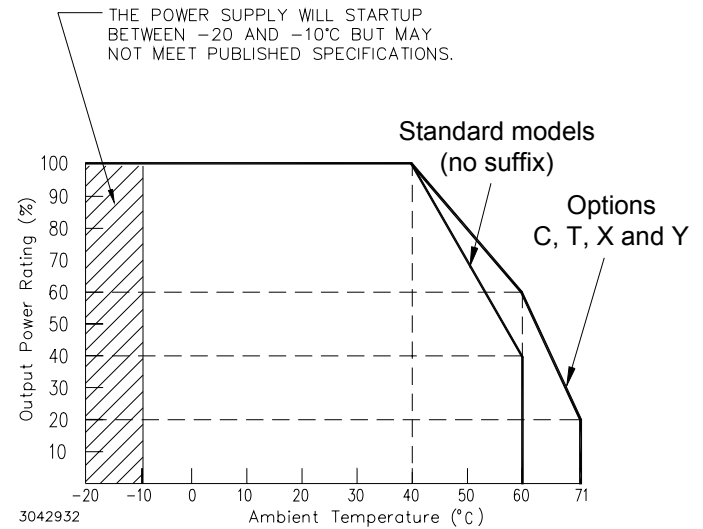

FIGURE 4. OUTPUT POWER RATING VS. AMBIENT TEMPERATURE
(1) Derates same as Output Power.
(2) Current Limit is rectangular. After the overload is removed, output is automatically restored.
(3) See power derating curve, Figure 4.
OPERATING TEMPERATURE: See Figure 4. (5V Model requires air cooling, 6 cfm min., above 25°C.)
- (1) Overvoltage (and overtemperature on 24V model) shuts down the output. Recover by recycling a-c input (approximately 30 second delay required before resetting). For overtemperature, allow unit to cool before resetting.
(2) 25°C, Nominal. Input.
(3) Hiccup mode operation. After the cause of overcurrent is removed, output voltage recovers automatically.
(4) See power rating curve, Figure 4. Exceeding maximum power rating may result in oscillation or a drop in output current or voltage.
- (5) Ripple and noise will be approximately 1.5 times higher in the operating temperature range -10 to 0°C.
(6) Sense resistor on C and Y Models are used for current monitoring. See "Current Monitor." on page 2 for details.